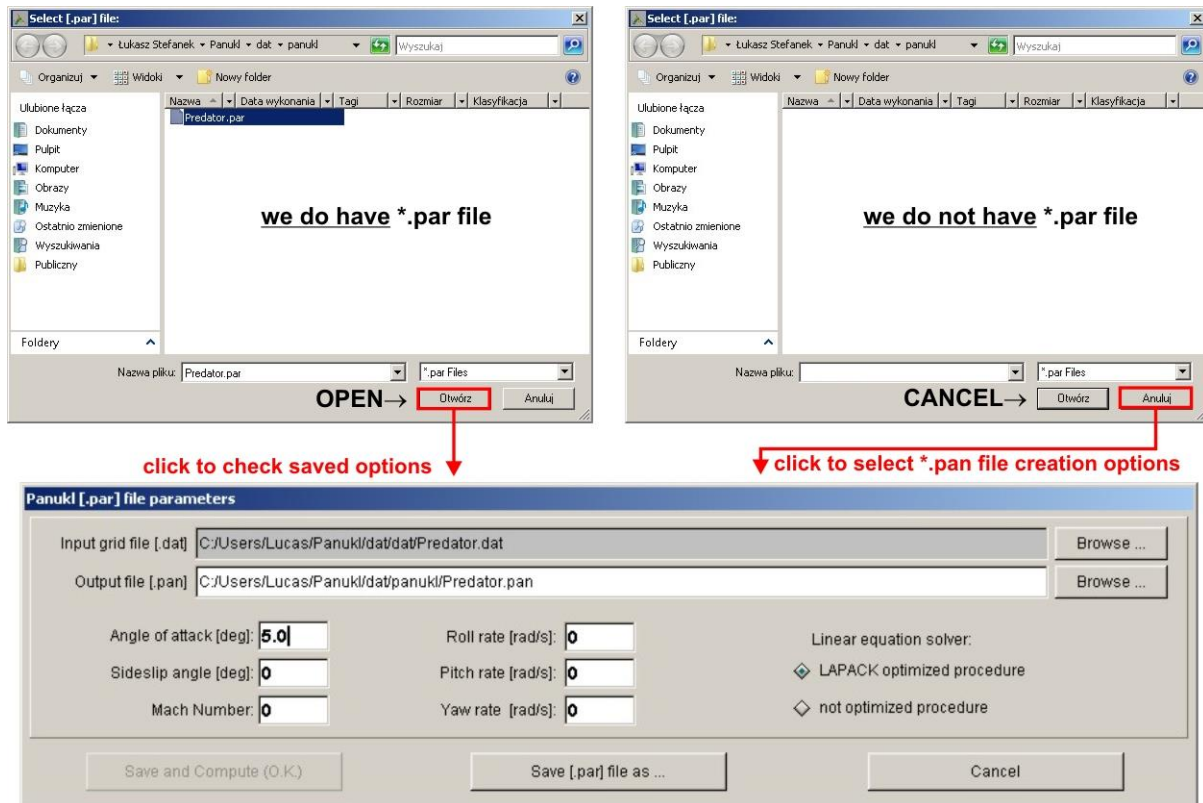

Fig. 39 – Creating \*.pan file
**Option No. 1 – we do have saved on disk configuration file \*.par, Fig. 39**
**Option No. 2 – we do not have saved on disk configuration file \*.par, Fig. 39**